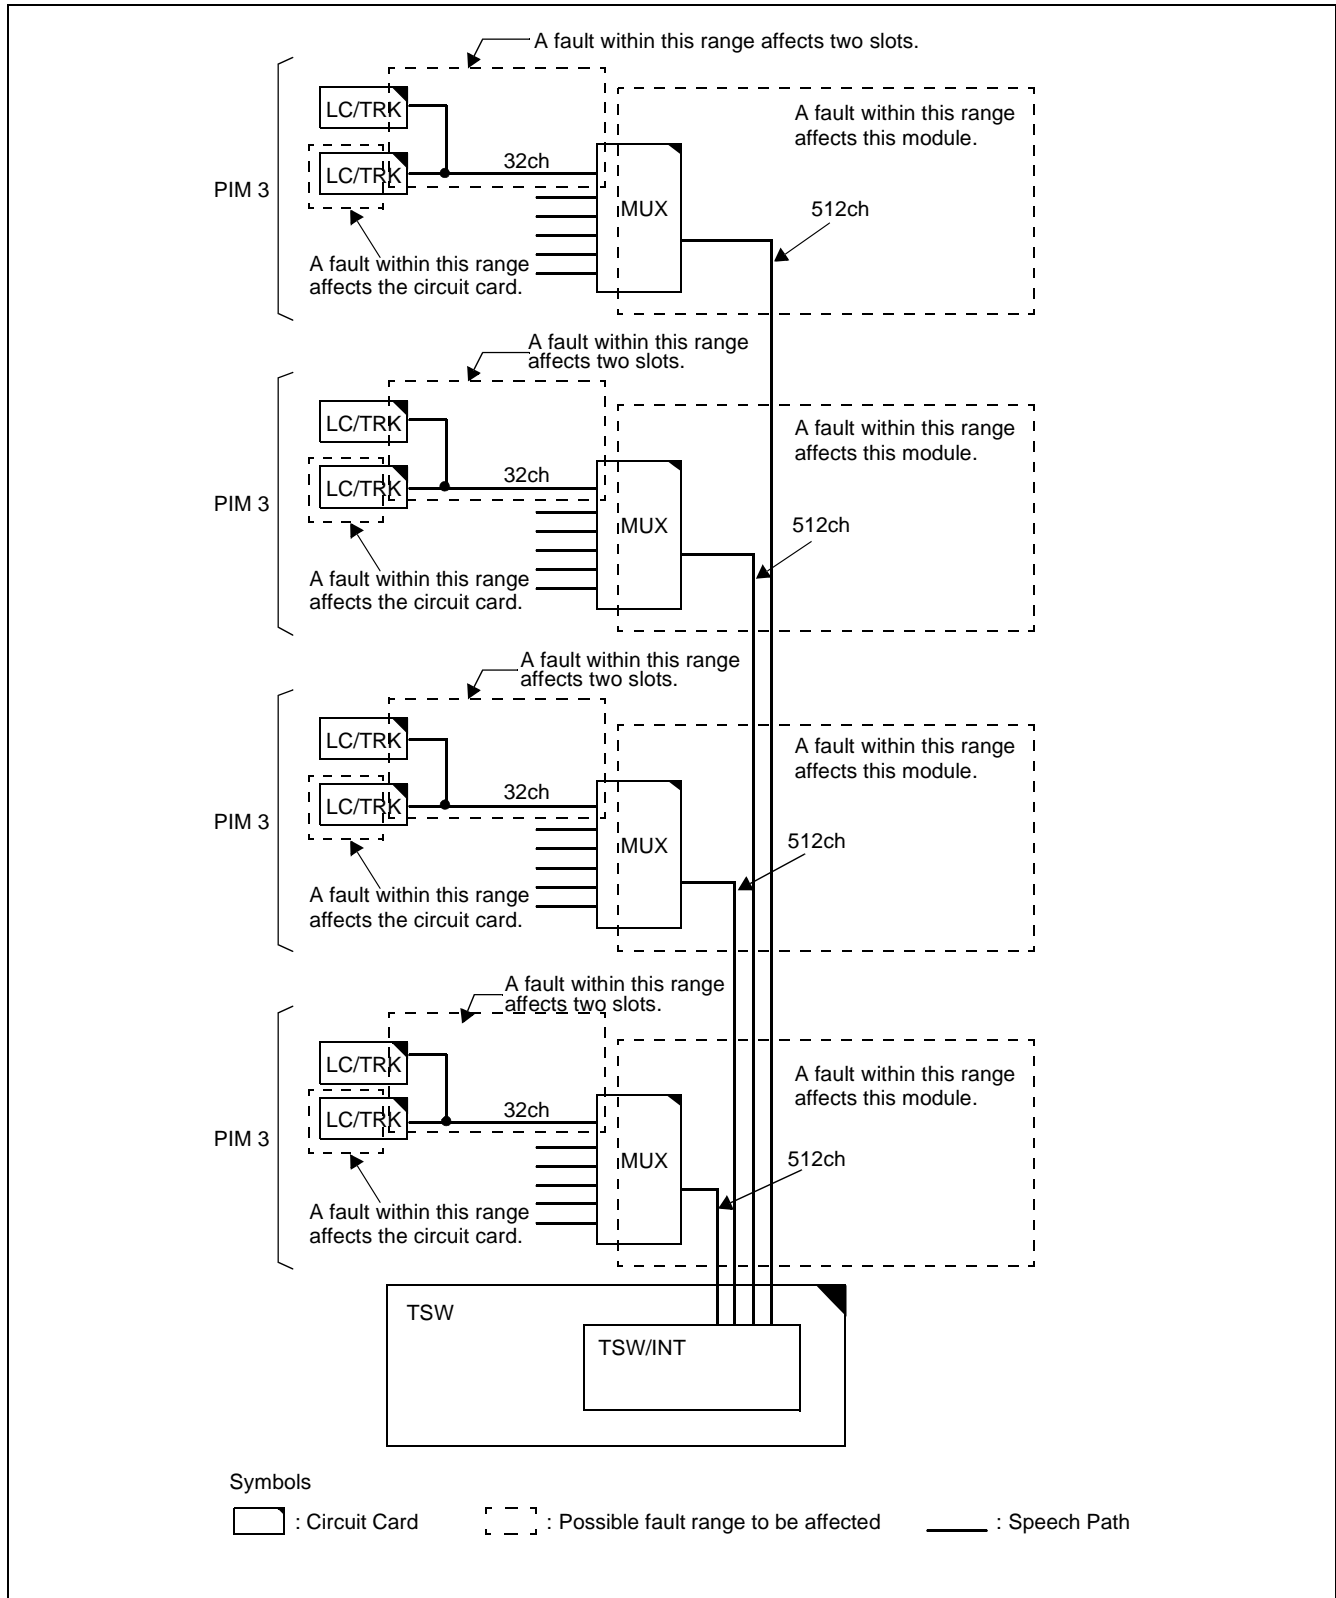

Figure 2-27 Speech Path Range of Fault
- (5) As seen from the block diagrams in Figure 2-24 through Figure 2-27, if a fault occurs within the common portions to be controlled, all other associated portions are affected by that fault occurrence. If the range of faults is outside PIM fault, CPU/TSW system changeover is executed (only when the fault is detectable by the system).